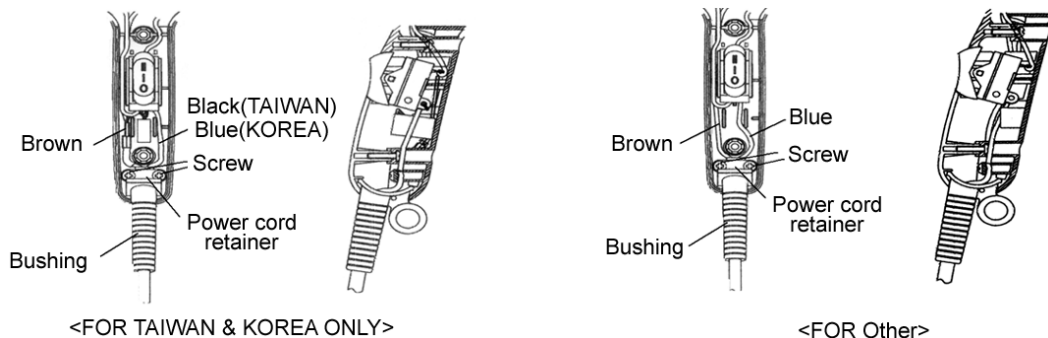

Figure 5
(5) Install the switch at the position as shown in Figure 5.
(6) Position all lead wires as shown in Figure 5.
(7) Set the power cord, bushing and fasten 2 screws at the power cord retainer as shown in Figure 5.